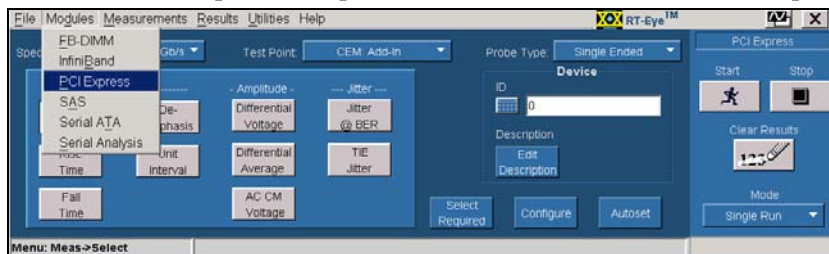

Figure 12: Choosing PCI Express Compliance Module.
**Note:** If PCI Express does not appear in the list (as in Figure 12), the PCI Express Compliance Module (Opt. PCE) has not been installed.